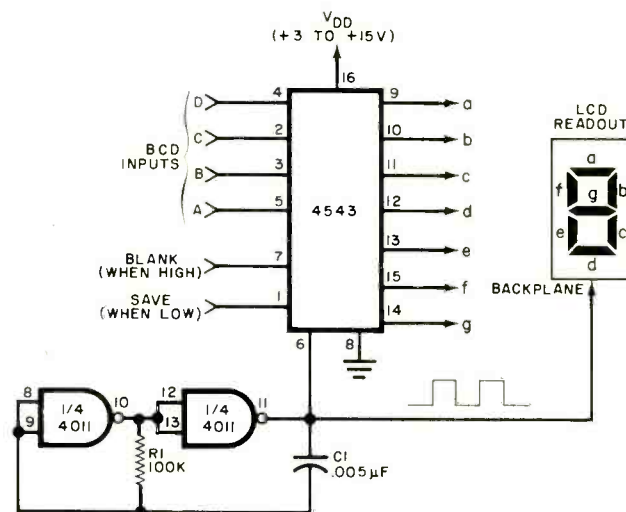

Fig. 2. How to use the 4543 CMOS LCD 7-segment latch/decoder/driver.
**An LCD Driver Chip.** Many different clock and watch chips designed specifically for driving LCDs are now available. But what if you want to interface a circuit of your own design with an LCD? One approach is shown in Fig. 2.